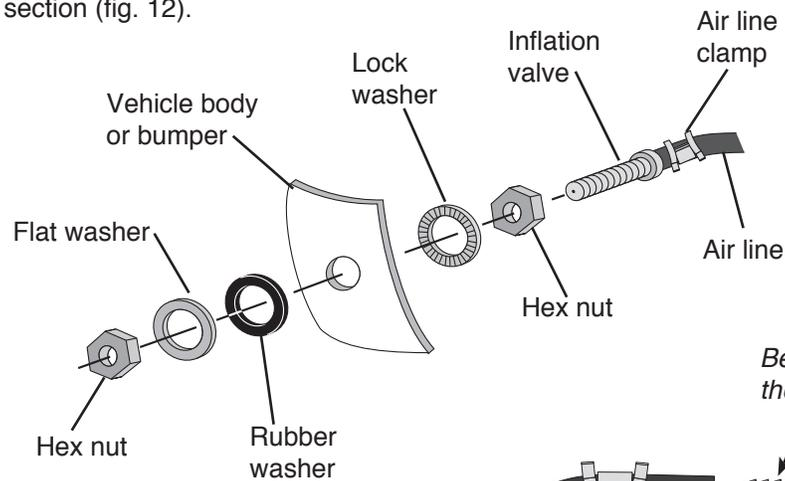

fig. 11
9. Drill a 5/16" hole for the inflation valve and mount as shown (fig. 11). The rubber washer serves as an outside weather seal.
7. Drill a 5/16 " hole for the inflating valves and mount as illustrated. The rubber washer is for an outside weather seal (fig. 11).